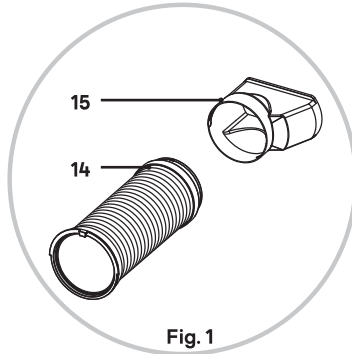

Fig. 1
3. Click & lock the exhaust nozzle (#15) to the exhaust connector (#14). (Fig. 1)